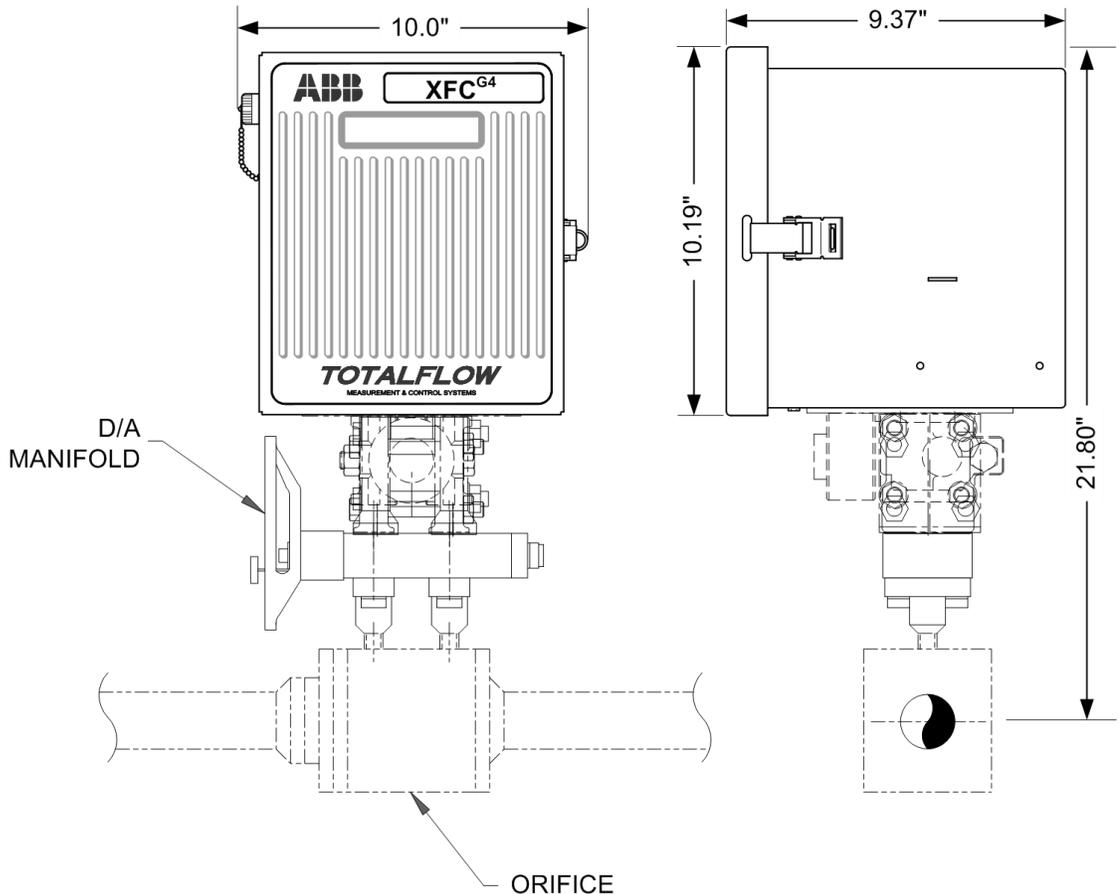
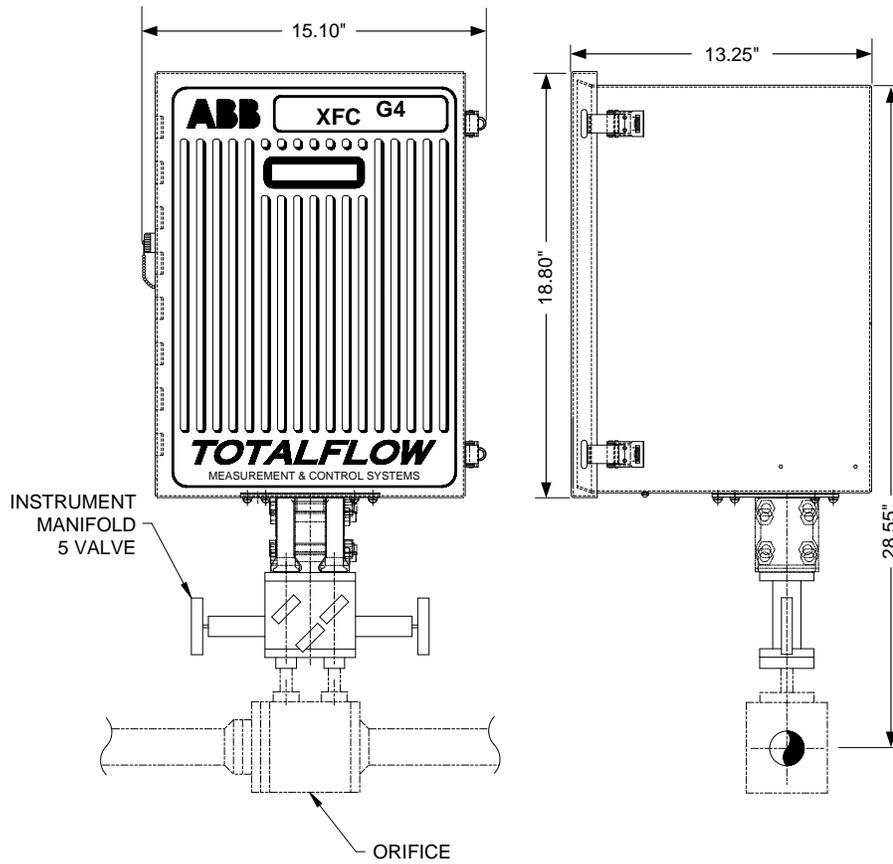

Figure 45 Model XFC^{G4} 6410, Direct Mounted with D/A Manifold (for illustrative purposes only)
Figure 47 Model XFC^{G4} 6713 Direct Mounted
1. Attach the XIMV to the manifold, to Figure 45 through Figure 47.
4. Refer to Figure 45 through Figure 47, and complete the installation.